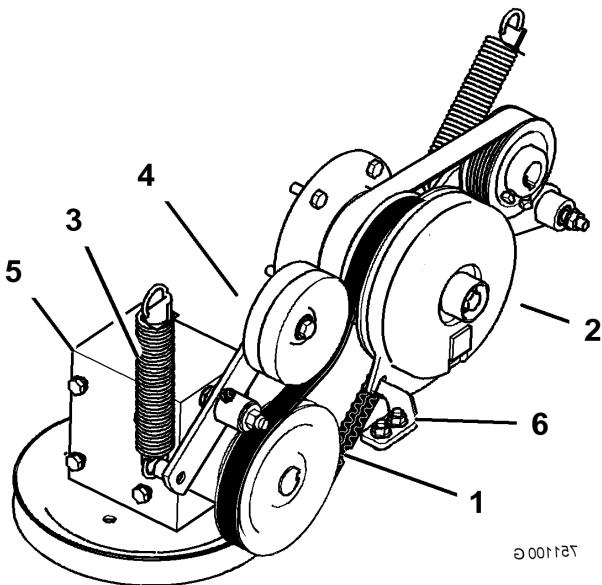

Figure 54
4. Remove the spring from the idler arm (Figure 54).
7. Install the PTO drive belt around the clutch pulley and the gearbox pulley (Figure 54).
9. Install the spring to the idler arm (Figure 54).